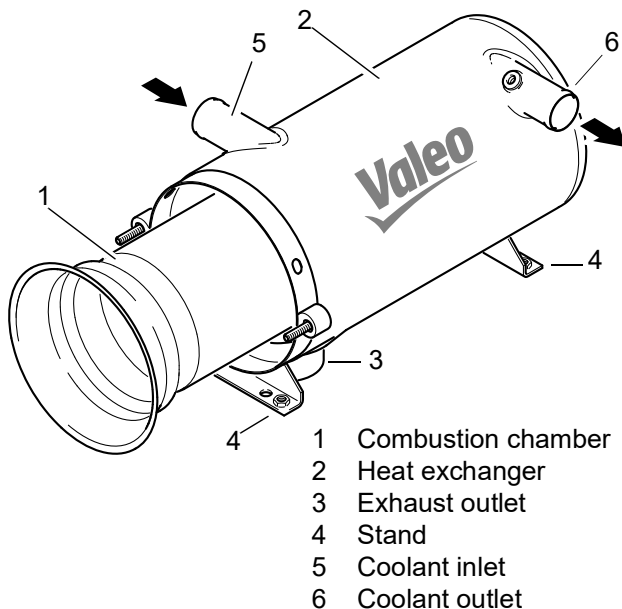

Fig. 805 Combustion chamber removal and installation
2. Pull combustion chamber (1, Fig. 805) out of the heat exchanger (2).
1. Slide combustion chamber (1, Fig. 805) until stop into the heat exchanger (2).
3. Pull combustion chamber (1, Fig. 805) out of the heat exchanger (2) (see 8.10).
4. If necessary, loosen the exhaust line clamp on the exhaust outlet (3).
1. Bring the heat exchanger (2, Fig. 805) into installation
- position and mount the stand (4) to the vehicle using screws, nuts and washers according to the mounting points used.
- If necessary, secure the exhaust line using a clamp to the exhaust outlet (3).
- Fit coolant the hoses onto the coolant inlet (5) and the coolant outlet (6) and secure them with hose clamps applying a tightening torque of 6 ± 0.6 Nm.